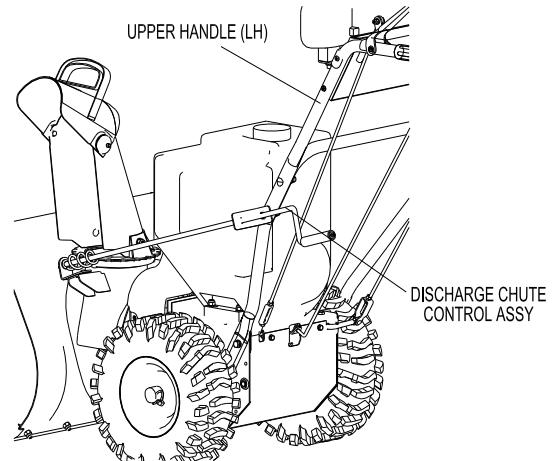
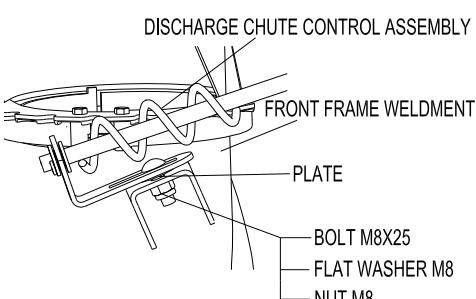

FIG 12
FIG 11
Attach the discharge chute control assembly (bracket) to the upper handle (LH) with the existing bolt, washer, and nut. Attach other end of assembly through worm bracket slot, plate, and front frame weldment holes with hex head bolt, washer, and nut. Operate the chute control rod to check if the discharge chute moves freely. (FIG 11, FIG 12)